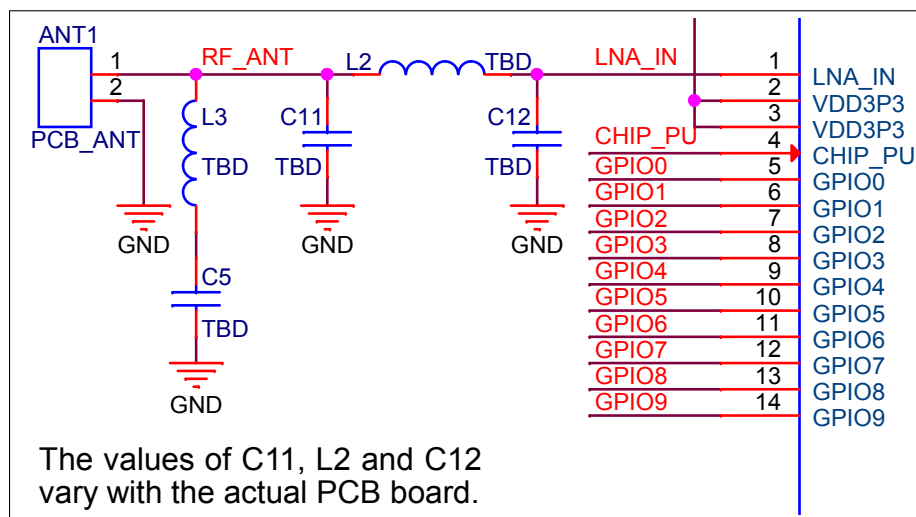

Figure 10: Schematic for RF Matching
- For the chip matching circuit, it must be placed close to the chip. It is mainly used to adjust the impedance point and suppress harmonics. The CLC structure is preferred, and a set of LC can be added if space permits. The CLC matching circuit is shown in Figure 10.